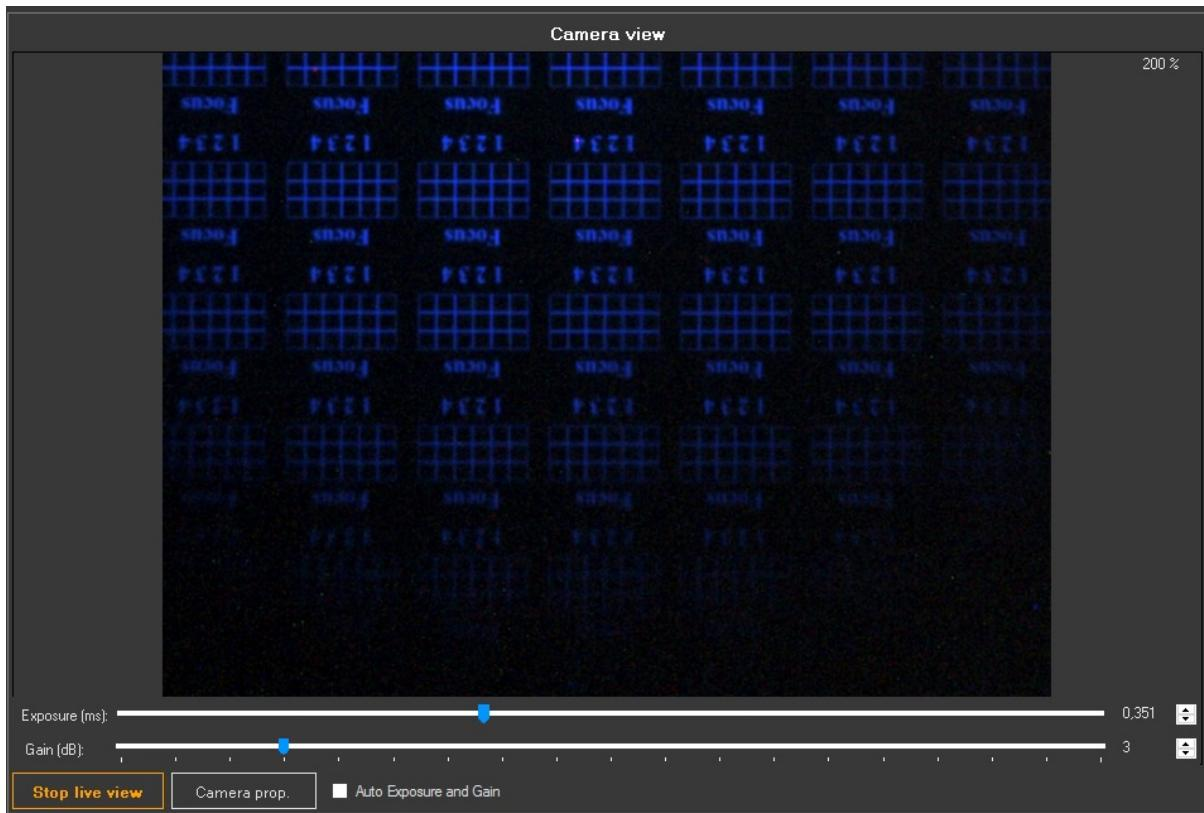

Figure 21 – Camera view panel during focus setting
- Click on the button **Focus Mode** in the **Exposure** panel (Figure 9). The camera live view will start automatically in the **Camera View** panel (Figure 21).